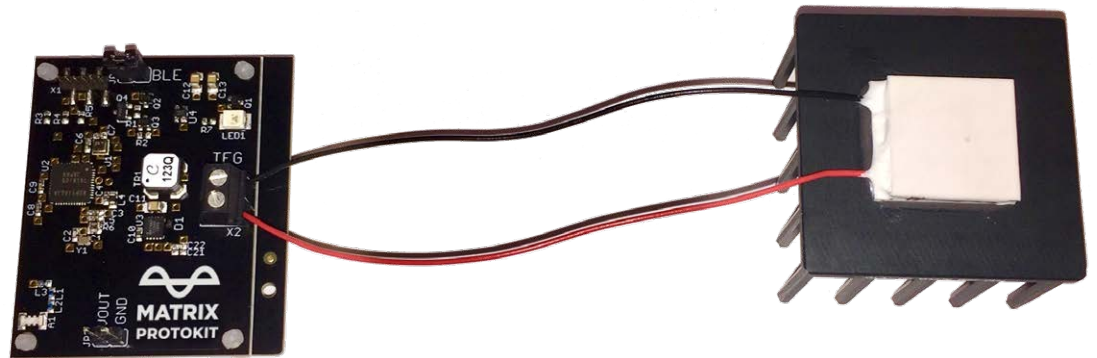

Figure 2: MCRY-PROTOKit with MATRIX Gemini TEG
5. The screens show the VOC (VTEG), and the power output can be calculated using: $POUT = \text{efficiency} * \text{VOC}^2 / (4 * R_{TEG})$. R_{TEG} is 12Ω and the efficiency can be looked up from the Mercury datasheet (Figure 2). If the Seebeck coefficient $STEG$ of the TEG module is known, the VOC can also be used to estimate the temperature difference across the TEG using $dT = \text{VOC} / STEG$.